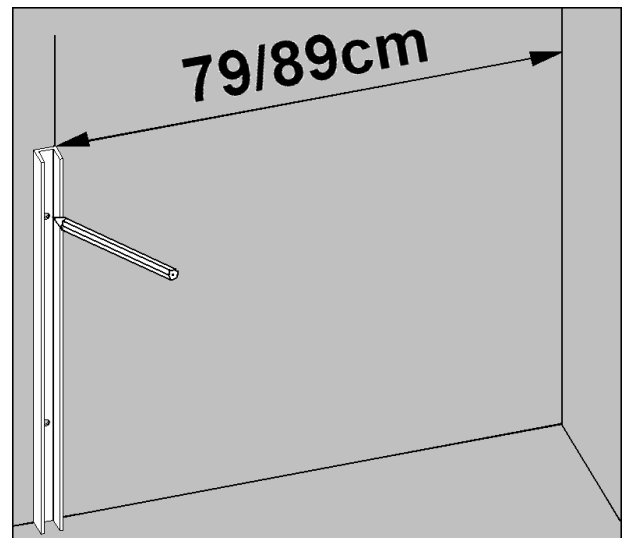

Figure 1
2. With the help of level, place the longer U-lath on the wall vertically. U-lath's edge should be on the same level with marked dot and U-lath's end should rest against floor (**Figure 1**). Mark the lath's holes on the wall and take the lath away from the wall (if the marks are on edges of ceramic tiles, try to turn the lath and make new marks).